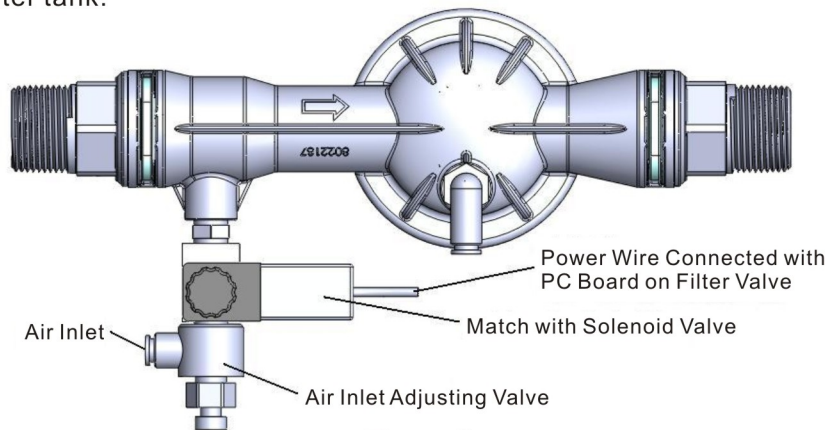

Figure 2
C.Ensure the opening degree of air inlet adjusting valve in Figure 2 is no more than one cycle. The default setting in factory is a quarter cycle. Depending on the iron and manganese removal effect to adjust the air inlet volume.